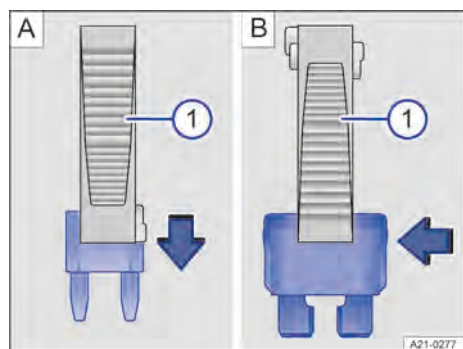

Fig. 185 Removing or inserting fuse (illustration).
1. If applicable, take the plastic pliers → Fig. 185 ① out of the fuse box cover.
2. Push the plastic grippers clip suitable for the fuse type onto the fuse from the top → Fig. 185 A or the side → Fig. 185 B.
4. If the fuse has blown, replace it with a new fuse of the same amp rating (same colour and same markings) and same size → ①.